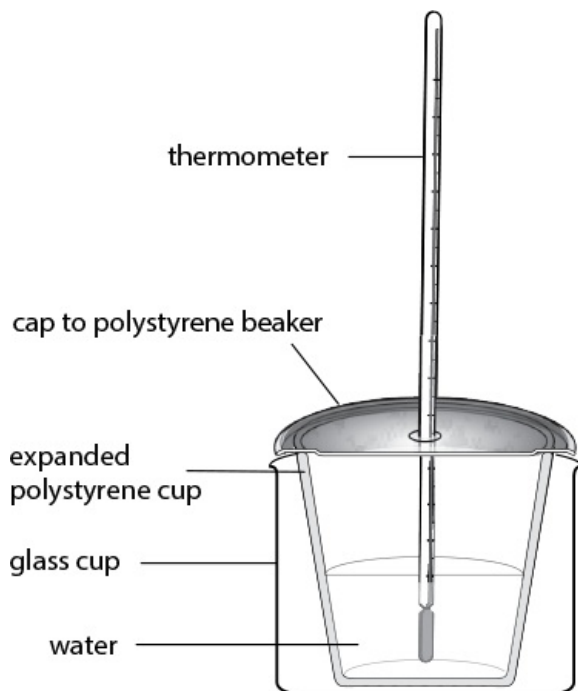

Figure 11.2: Measuring an enthalpy change of solution
- 2 Use the measuring cylinder to pour 20 cm³ of distilled water into the polystyrene cup (see Figure 11.2).